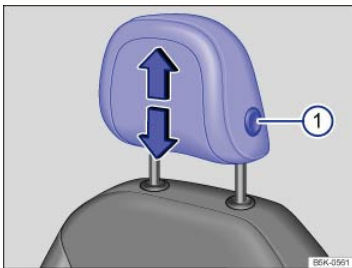
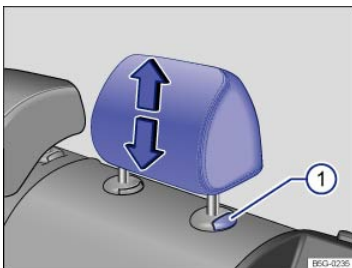

Fig. 73 Adjusting the front head restraints.
Fig. 74 Adjusting the rear head restraints.
- While pressing the button ⇒ Fig. 73① or ⇒ Fig. 74①, pull the head restraint up or push it down in the direction of the arrow ⇒ ⚠.